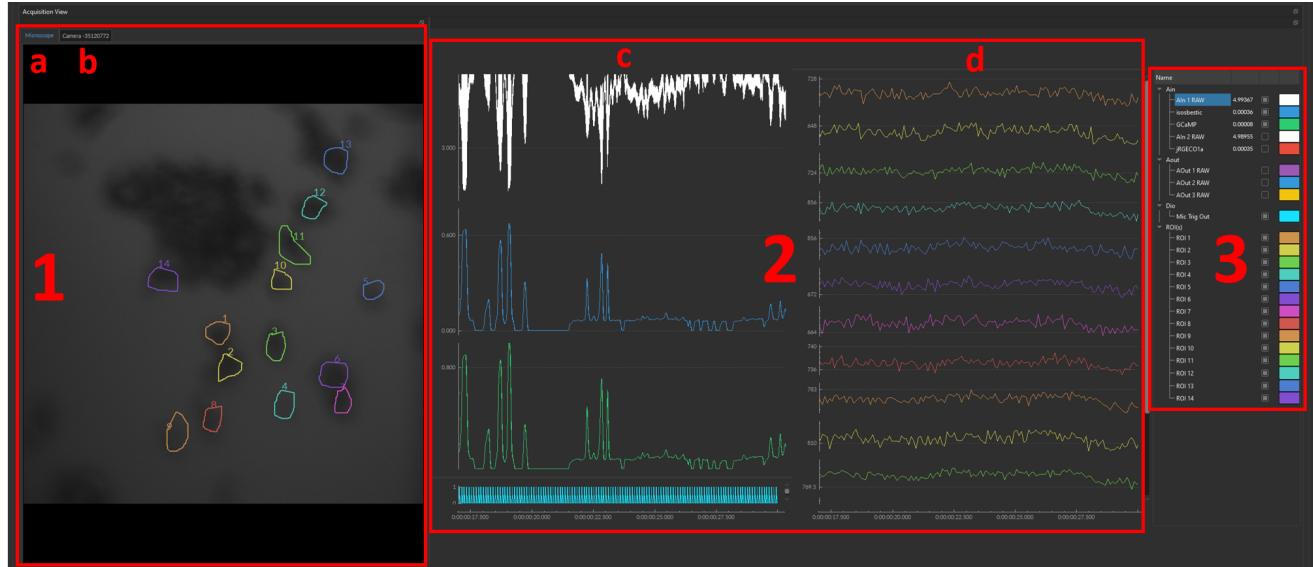

Figure 11.9: Acquisition View
Thus, depending on what type of channels are active, the interface can look drastically different. Nonetheless, there are a few common elements that are typically displayed in the **Acquisition View** (Fig. 11.9), which will be treated in the following sections:
1. The **Video View** (Fig. 11.9, 3) **only available upon addition of either **Camera** or **Microscope** channels**
- a) Microscope View (Fig. 11.9, a) - Section 11.4.4
- b) Camera View (Fig. 11.9, b) - Section 11.4.3
2. The **Graph View** (Fig. 11.9, 2) - Section 11.4.1.
- c) Analog & Digital Inputs and Outputs (Fig. 11.9, c)
- d) ROI(s) View (Fig. 11.9, d) - **only available upon **Microscope** channel addition**
3. The **Graph List** (Fig. 11.9, 3) - Section 11.4.2.
The **Graph List** (Fig. 11.9, 3) always accompanies the **Graph View** (Fig. 11.9, 2), but can be hidden/shown, as any of the different channels from the list, by right clicking on any of the channel name shown in the **Graph View(s)** (Fig. 11.16).